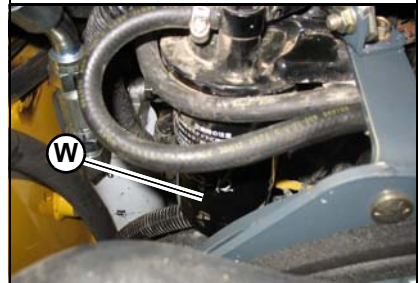

Figure 100 – Fuel Filter
4. Remove the fuel filter (W, Figure 100), using a filter wrench if necessary. Carefully clean the filter head mounting surface with a clean cloth.